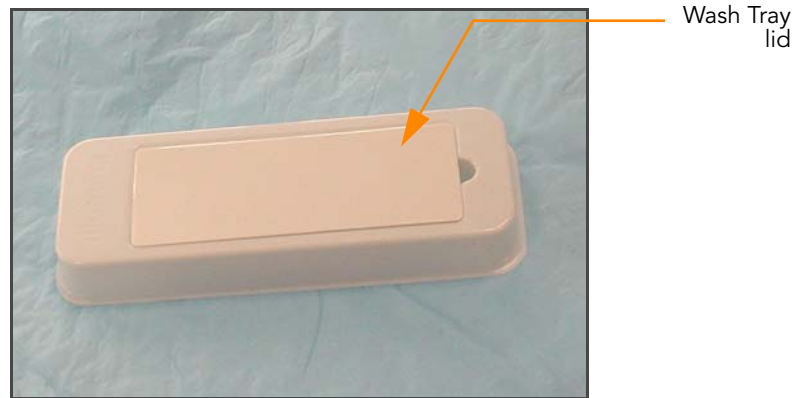

Figure 38 Wash Tray Lid
4. Cover the wash tray with the flat lid provided (Figure 38).